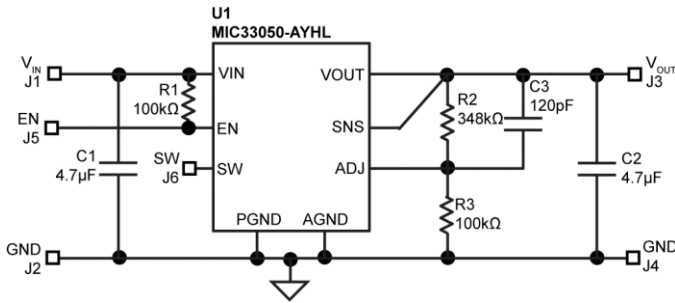

Figure 1. Typical Circuit for MIC33050-AYHL ($V_{OUT} = 1.8V$)
As shown in the previous equation, the load at which MIC33050 transitions from HyperLight Load mode to PWM mode is a function of the input voltage (V_{IN}), output voltage (V_{OUT}), duty cycle (D), inductance (L) and frequency (f). As shown in Figure 1, as the Output Current increases, the switching frequency also increases until the MIC33050 goes from HyperLight Load mode to PWM mode at approximately 120mA. The MIC33050 will switch at a relatively constant frequency around 4MHz once the output current is over 120mA.